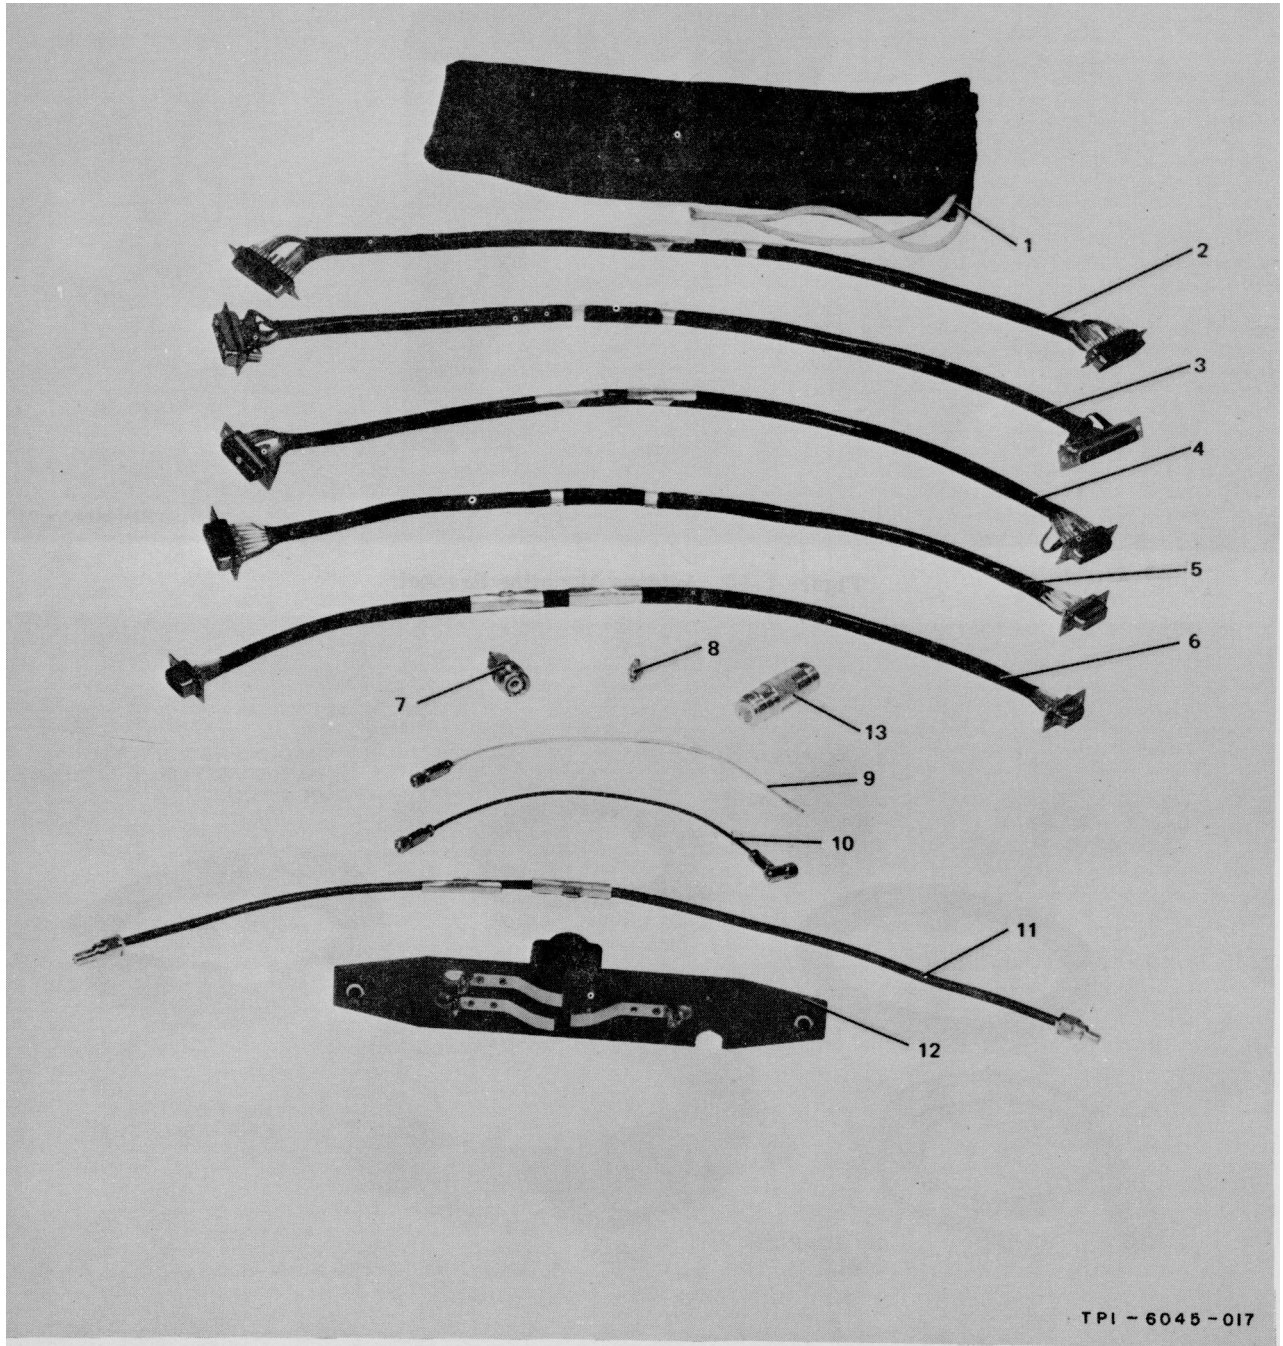

Figure 1-12. Maintenance Cable Kit
(11) MAINTENANCE CABLE KIT. (Refer to figure 1-12 ) - The maintenance cable kit is composed of five multipin cables, one Microdot cable, two Conhex cables, a BNC -to-Conhex connector, a Conhex-to-Conhex connector, and a dc maintenance adapter.